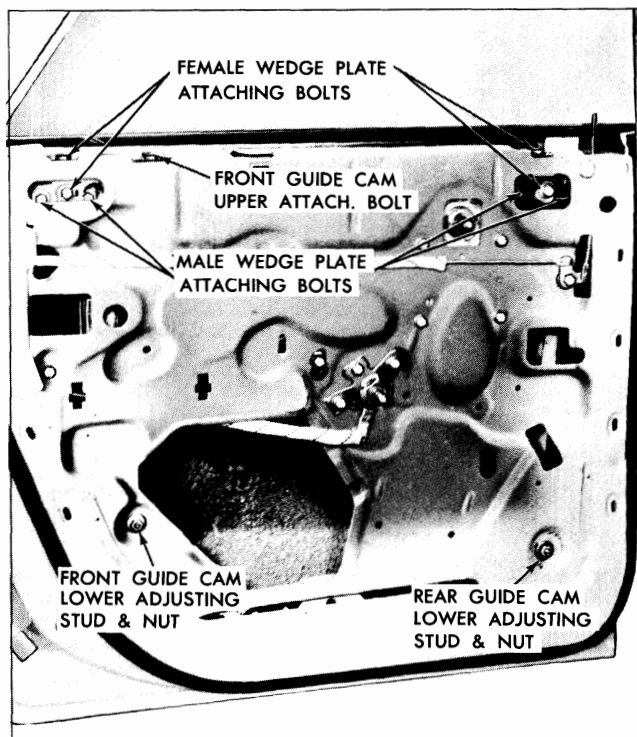

Fig. 3-55 Guide Cam and Wedge Plate Attachments
2. Through access holes in door inner panel, remove bolts securing window front and rear male wedge plates to lower sash channel and remove wedge plates (Fig. 3-55).
a. Loosen lower adjusting stud nut on both front and rear guide cams (Fig. 3-55).
(1) With window in the full-up position, loosen rear guide cam upper attaching bolt and female wedge plate upper attaching bolt.
*NOTE: For rear guide cam attachment, refer to Fig. 3-55.*
2. Remove rear guide cam upper attaching bolt and lower adjusting stud and nut (Fig. 3-55).